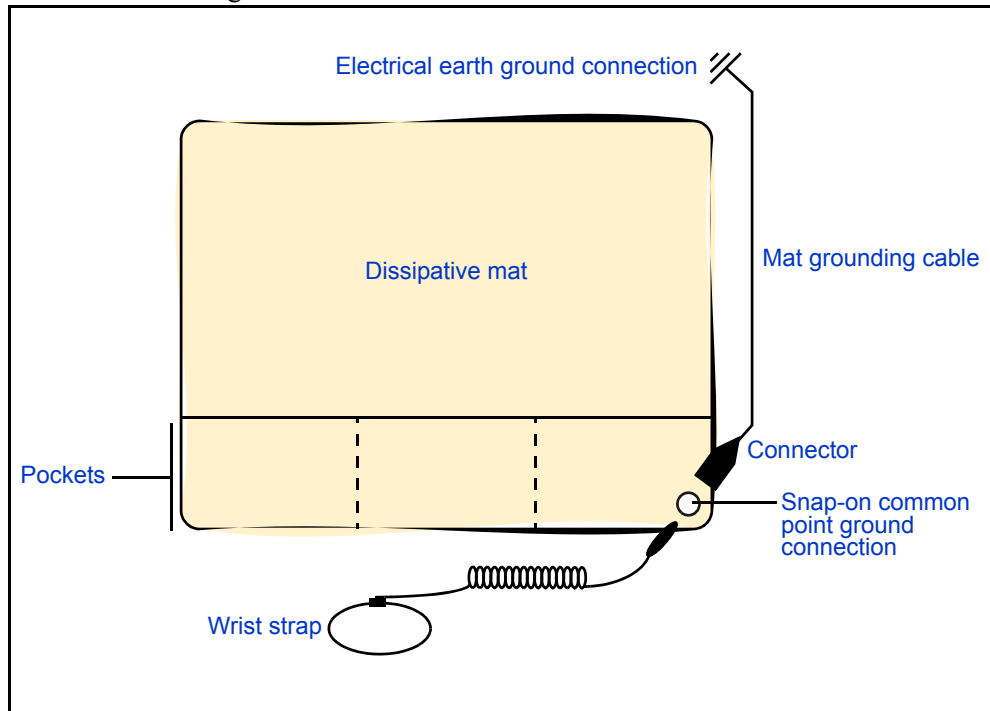

Figure 1.1 ESD workstation setup
1. Unroll the ESD field service workstation kit and place it, pocket side up, on the workbench. See Figure 1.1.